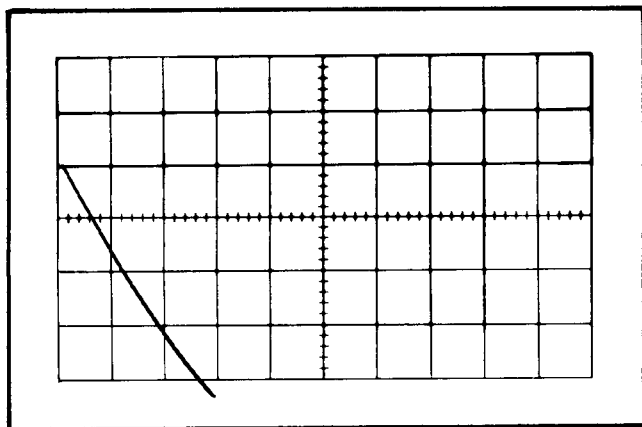

Fig. 5-21. Typical CRT display when checking DELAY-TIME MULTIPLIER dial incremental linearity.
m. Rotate the DELAY-TIME MULTIPLIER dial slightly so a marker is displayed at the start of the sweep (see Fig. 5-21).